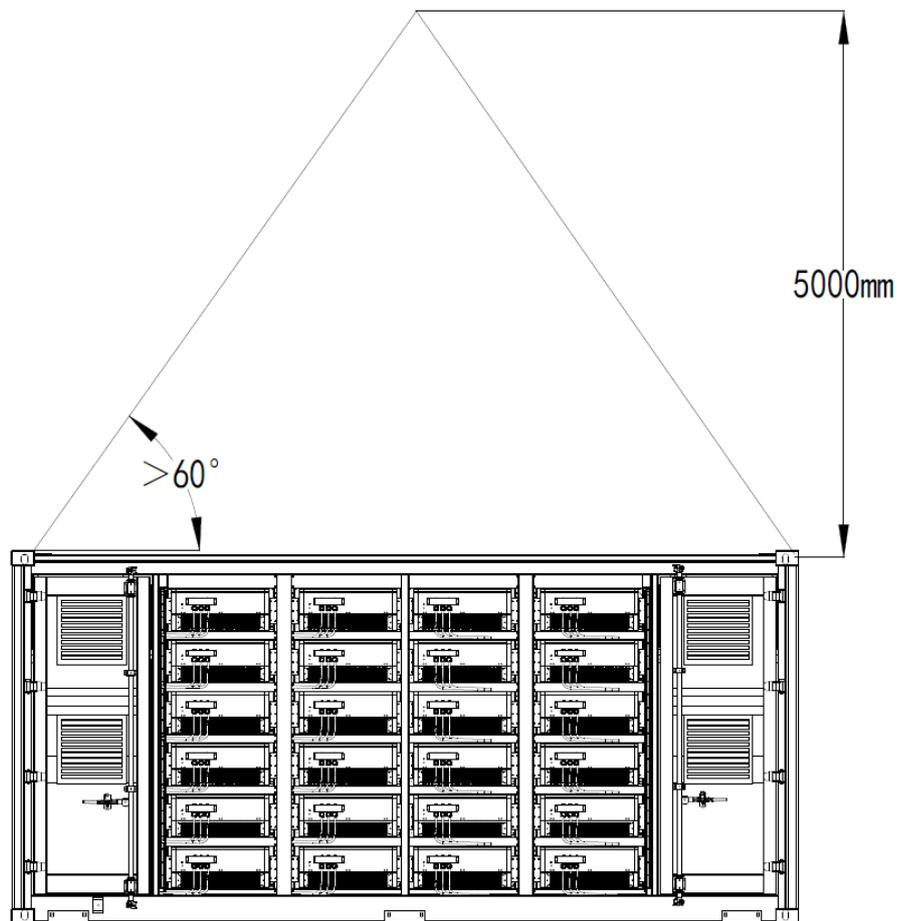

Figure 4-4 Schematic Diagram of Crane Handling
- The sling used shall have a bearing capacity of more than 10 tons and a length of more than 6.5 meters. Four slings shall be used, with one attached to each corner of the PCS Container. The angle between each sling and the equipment should not be less than 60° (Figure 4-4), and the total bearing capacity of the four slings shall be at least 40 tons.